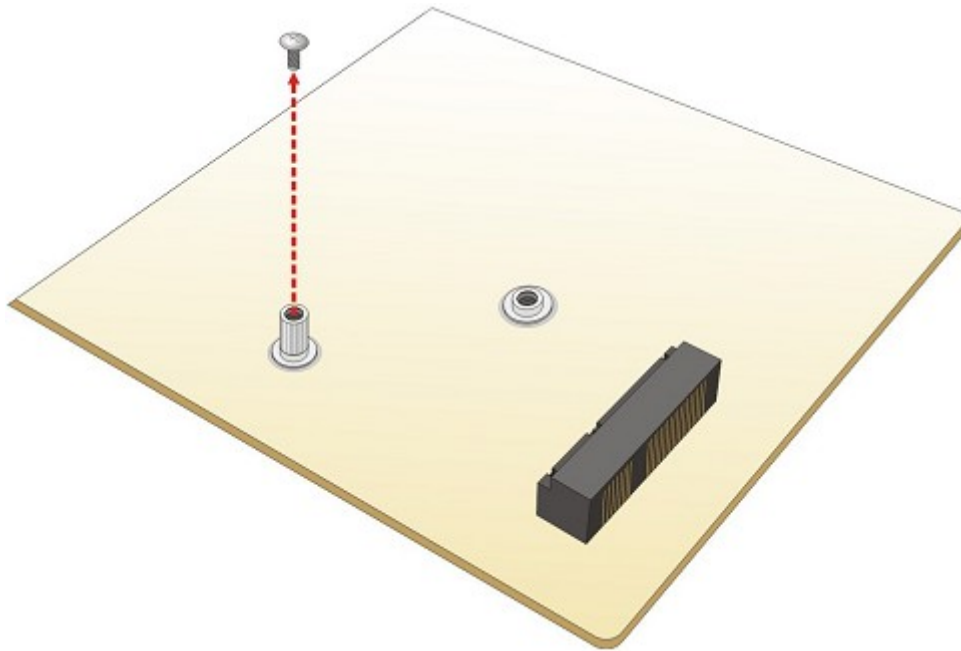

Figure 4-8: Removing the Retention Screw
- Step 2:** Remove the retention screw. Remove the retention screw as shown in Figure 4-8.